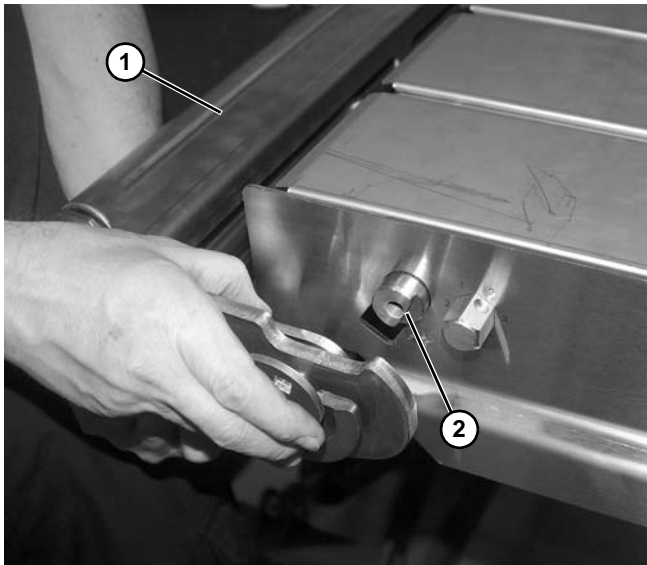

Figure 162
7. Remove idler assembly (Figure 162, item 1) from spindle (Figure 162, item 2) on each side.